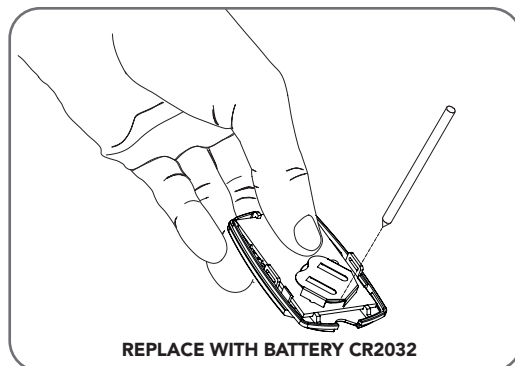

Fig.7.1.2
- Use a non-metallic object (e.g. pen) to remove the battery. (**Fig. 7.1.2**).